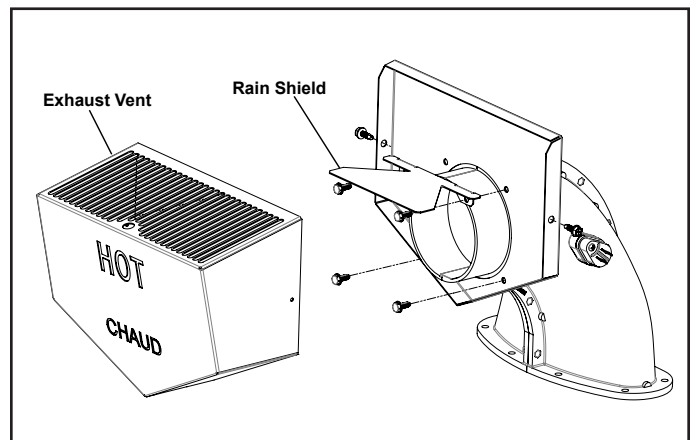

Figure 5. Remove Exhaust Body and Rain Shield
2. Remove the exhaust rain shield (see Figure 5).